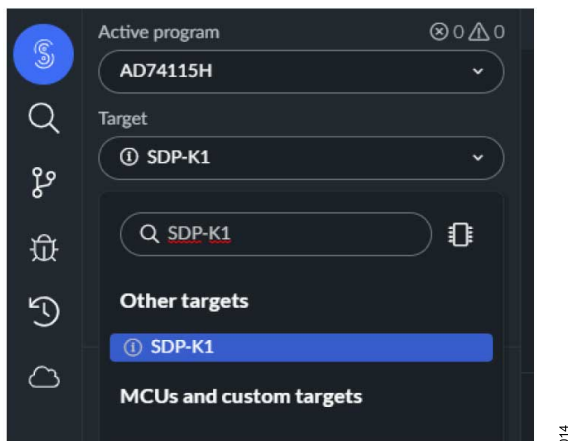

Figure 14. Choose SDP-K1 Platform
3. Choose the SDP-K1 board as the platform or target hardware (see Figure 14).